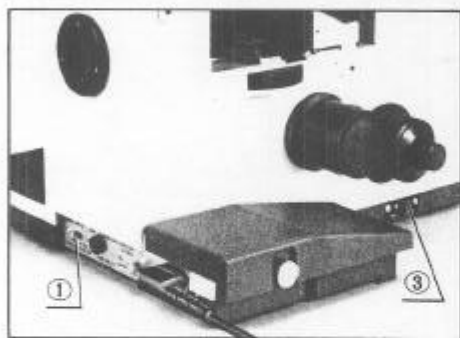

Fig. 18
- 1) Ascertain that the line voltage selector switch ① located at the back of the microscope stand is set to conform with the local mains voltage. (Fig. 18) If not, adjust correctly by means of a small screwdriver.
- 2) Make sure that the sliding voltage control lever ② is set at the closest position to the operator (low voltage), then turn on the power switch ③. (Figs. 18 & 19)